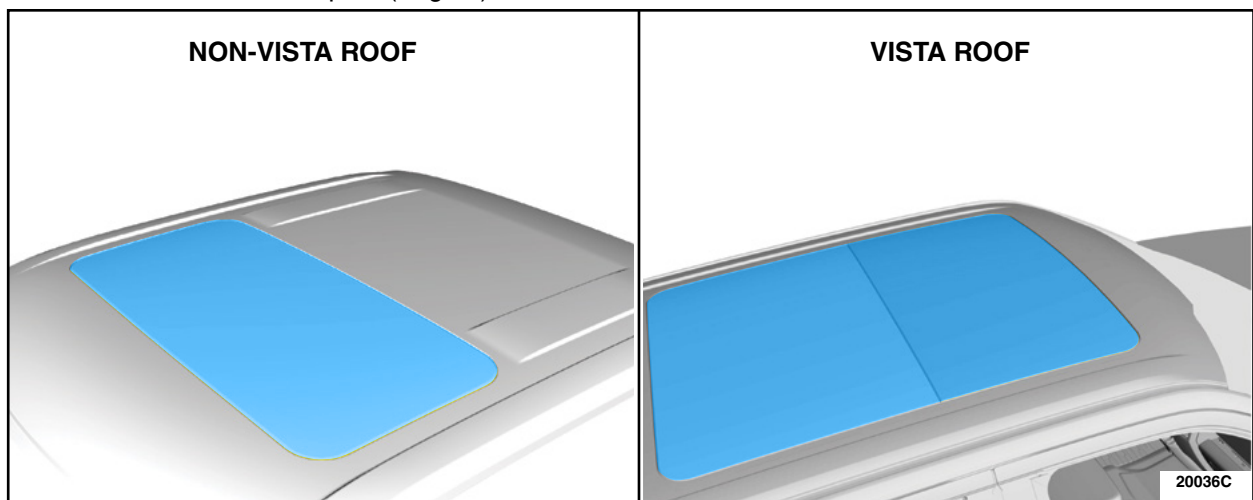

FIGURE 3
8. Is the vehicle equipped with a roof opening panel? See Figure 3.